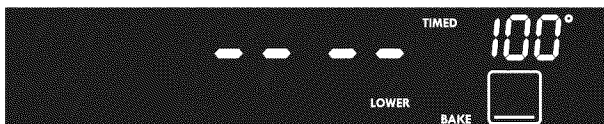

Figure 23: Cook time display
5. Press **Cook Time** (Figure 23).